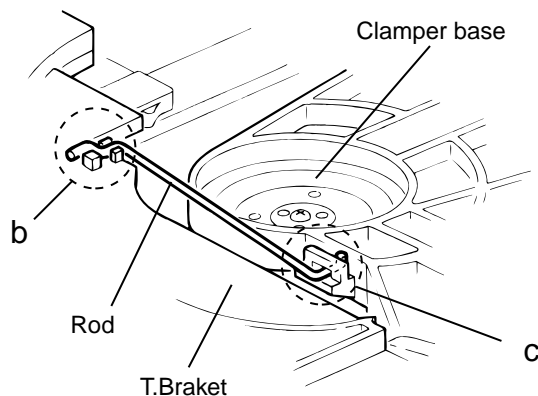

Fig.2
■ Removing the CD tray assembly (See Fig.2~4)
6. From the clamber base section "c", remove both of the edges fixing the rod (See Fig.2 and 3).